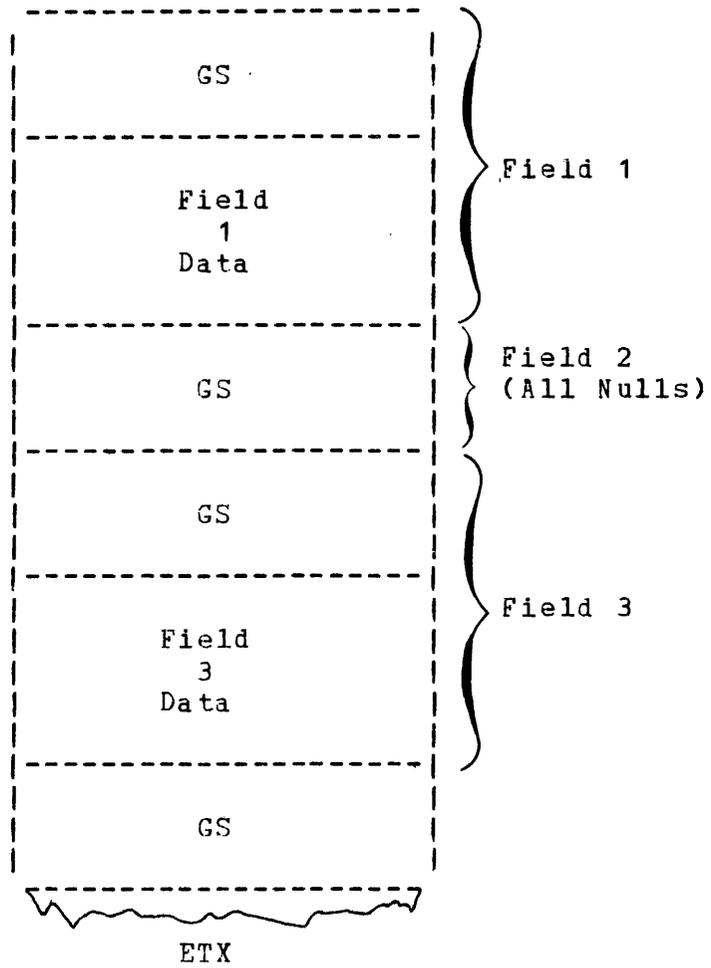

Figure 5-8 Read Unprotected Format
3. Read Unprotected. If the screen is unformatted; (i.e., contains no fields) this operation has the same effect as read/send all. If the screen is formatted, only unprotected fields are transmitted; nulls are suppressed. A field containing all nulls is indicated by a single group separator (GS) on the Model 1200 or a single Formatted-Send Modified, Send Unprotected-Field Terminator on the Models 1250/1251. The data formats are illustrated in Figure 5-8 and 5-9.